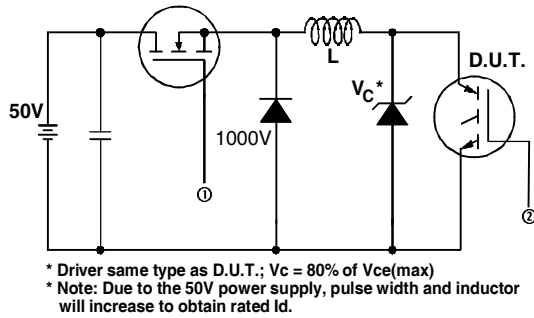

Fig. 13a - Clamped Inductive Load Test Circuit
② $V_{CC} = 80\%(V_{CES})$, $V_{GE} = 20V$, $L = 10\mu H$, $R_G = 10\Omega$, (see fig. 13a)
③ Repetitive rating; pulse width limited by maximum junction temperature.
④ Pulse width $\leq 80\mu s$; duty factor $\leq 0.1\%$.
⑤ Pulse width $5.0\mu s$, single shot.